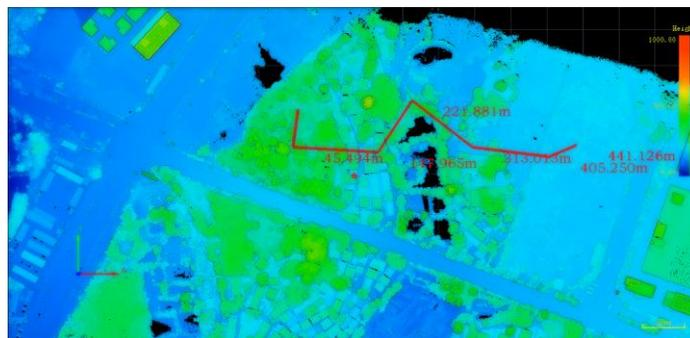

Figure 3-97 Measure 2D distance
- (1) Click the menu <Tools> → <Measure 2D Distance>.
- (2) Click the left mouse button to select the node in the two-dimensional view of the measurement line drawing, the measured distance data and line will be displayed in the view.
- (3) Double-click on the left mouse button can be the end of the measurement line drawing (Figure 3-97).
- (4) Cancel: click <Measure 2D Distance> again.